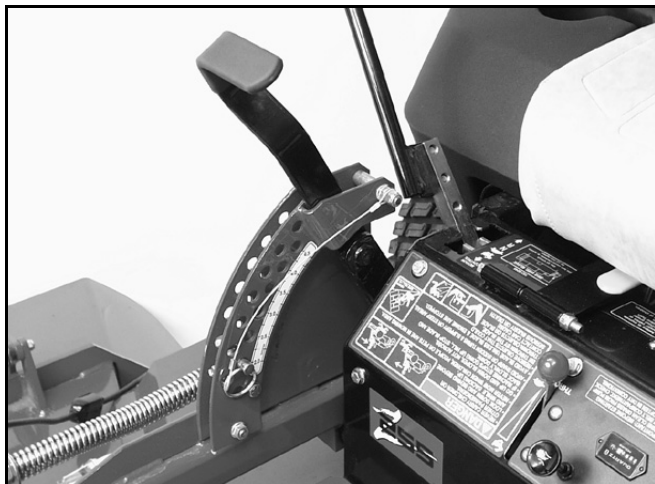

Figure 133
1. Raise deck lift lever to the transport position, (Figure 133).